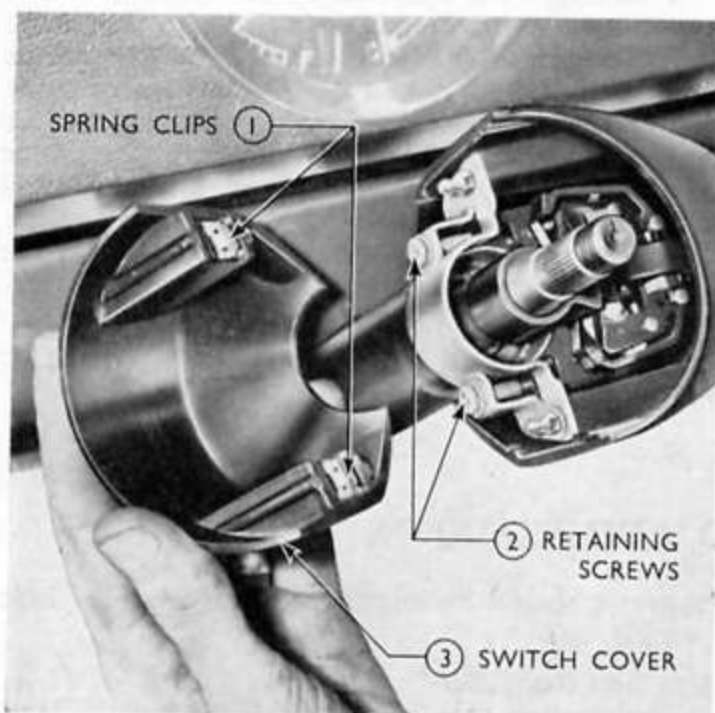

Fig. 22
of grease should be injected through the filler hole (see Fig. 22).
3. Lever off the side of the indicator and light switch, and remove the screws retaining the switch assembly to the steering column (see Fig. 22).